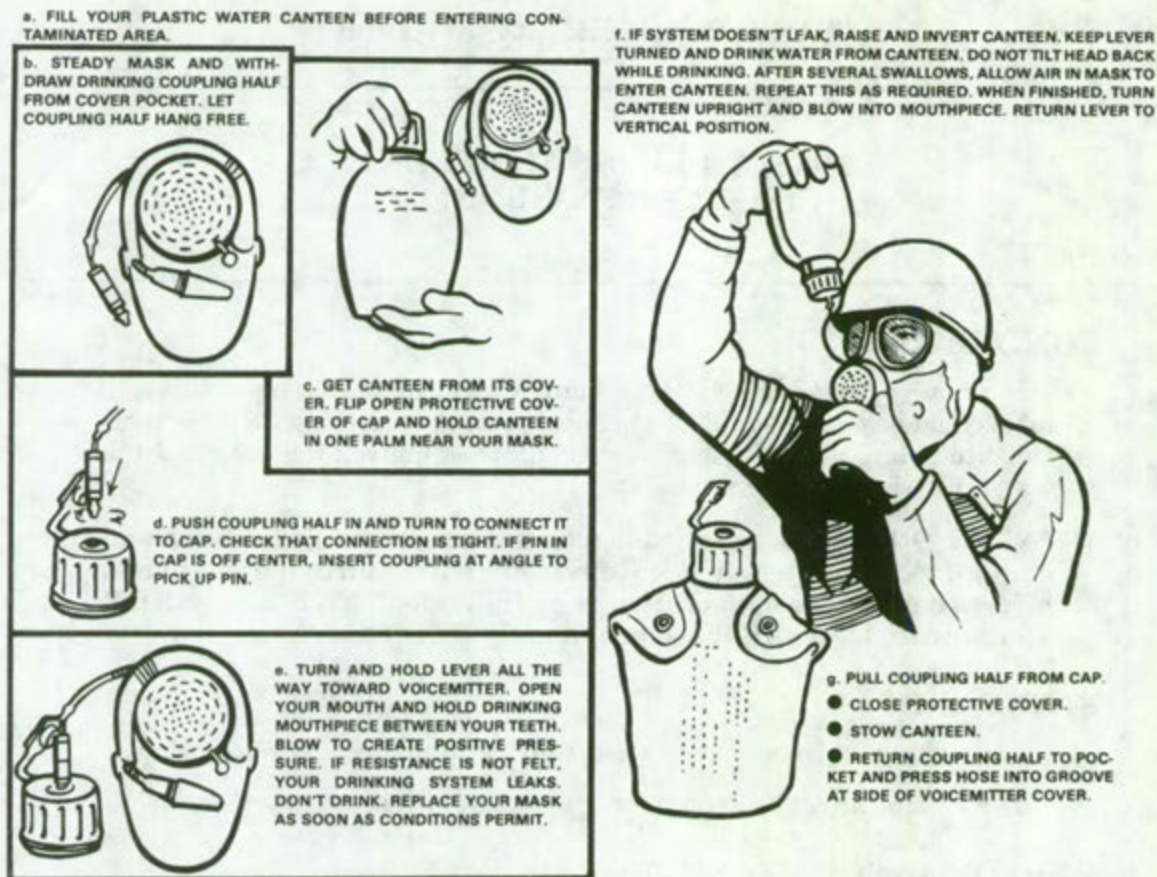

Figure 1.
2. Drinking when wearing the M17A1 mask (figure 1).